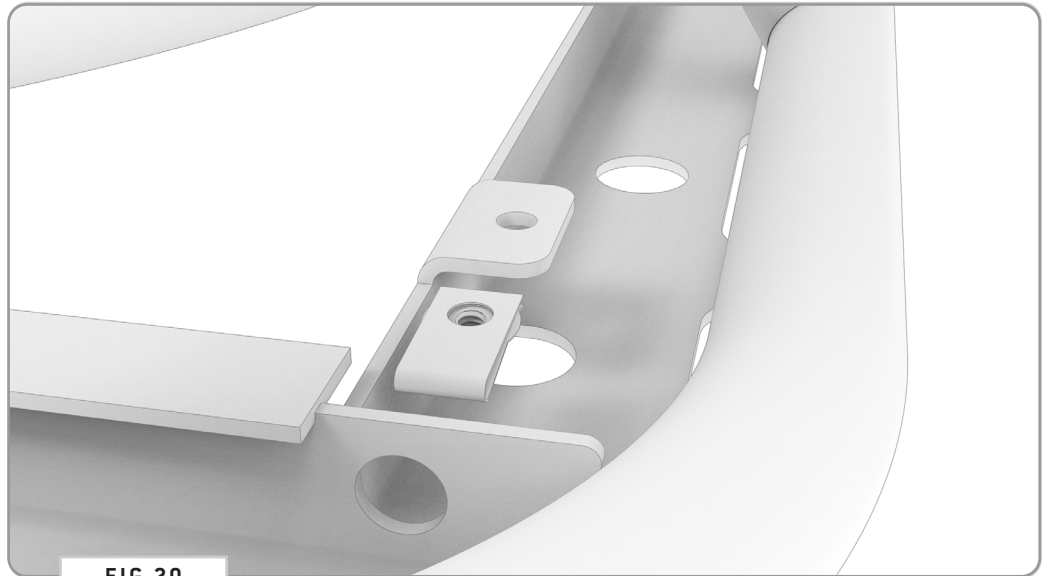

FIG 20
**NOTE** - The flat side of the **Clip Nut** should be facing upwards (**FIG 20**)